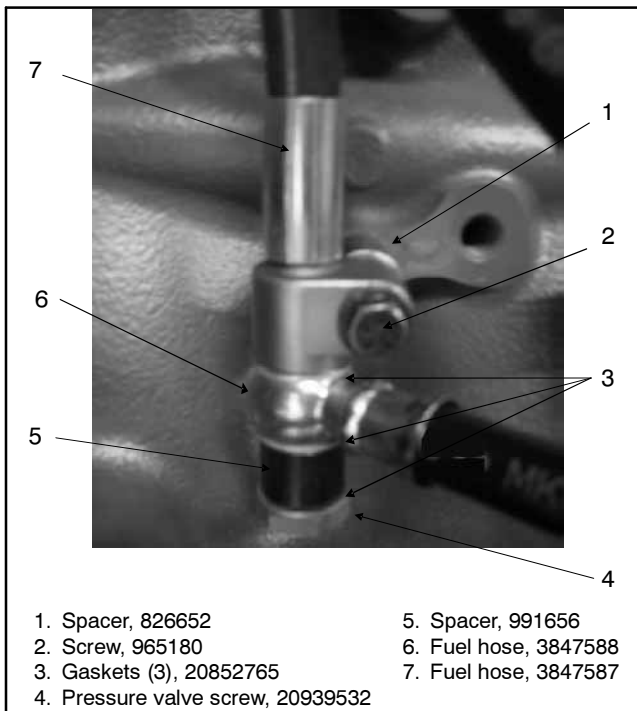
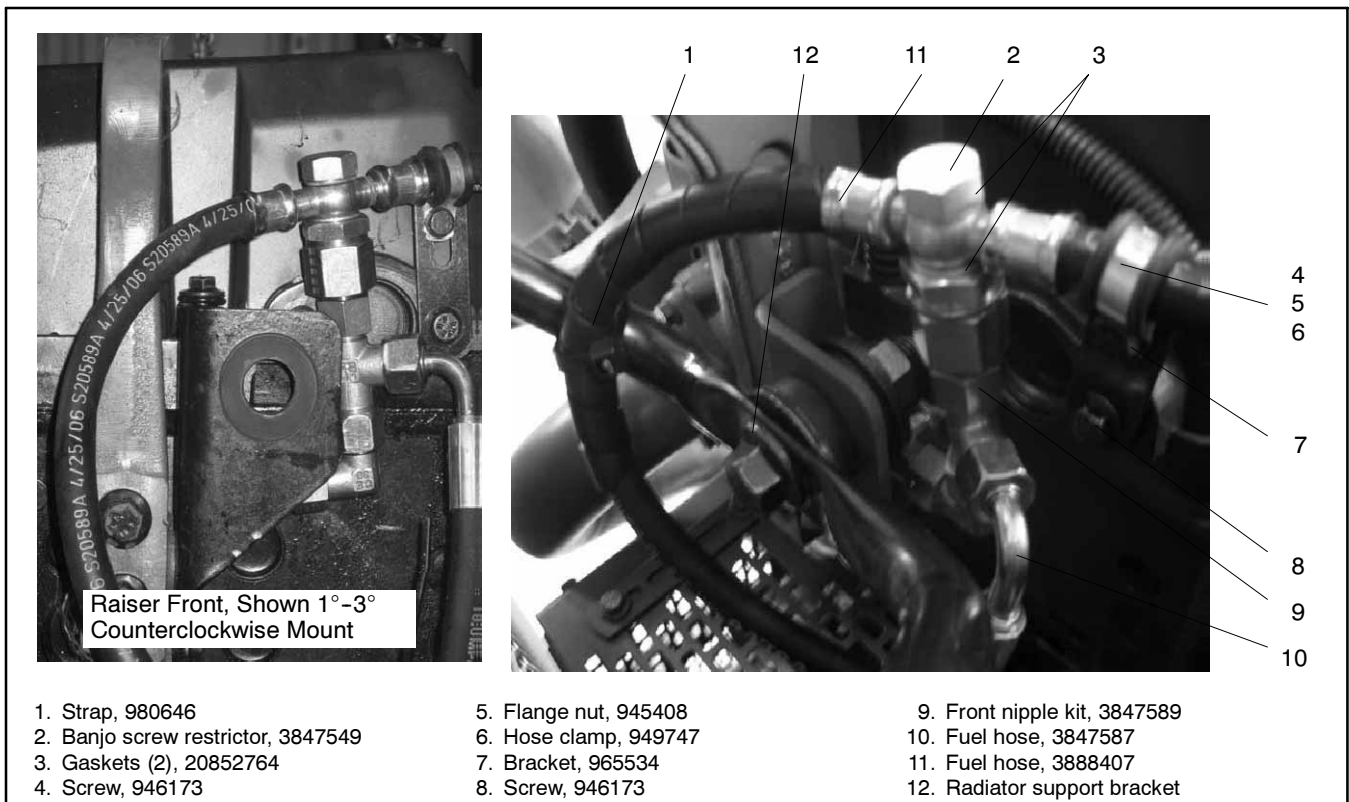

Figure 6 Pressure Valve Assembly Components
Figure 8 Front Riser Components
1.5.14 Assemble the pressure valve components that include the fuel hose 3847587 (item 7), fuel hose 3847588 (item 6), pressure valve screw 20939532 (item 4), three gaskets 20852765 (item 3), and spacer 991656 (item 5) using the sequence shown in Figure 6. Do not final tighten the banjo screw at this time.
1.5.15 Attach the pressure valve assembly to the engine block using the M8 x 60 screw 965180 (item 2) and spacer 826652 (item 1) as shown in Figure 6. Position pressure valve as shown in Figure 6. Final tighten the banjo screw.
1.5.20 Remove the bottom fitting (front nipple kit 3847589) on the front riser, install the bottom fitting to the front of the cylinder head, and attach and position the remaining front riser assembly (banjo screw restrictor 3847549) to the fitting as shown in Figure 8. Be sure to position the front riser 1-3 degrees counterclockwise in order to provide clearance between components and provide sufficient clearance to tighten the assembly.
- 1.5.21 Attach fuel hose 3847587 (Figure 6, item 7) from the pressure valve assembly to the front riser. See Figure 8, item 10.
- 1.5.23 Remove screw on valve cover near front riser and install extension bracket 965534 (item 7) and M5 x 20 screw 946173 (item 8) as shown in Figure 8. Original screw will not be reused.
- 1.5.24 Install fuel hose 3888407 (item 11) to the front riser using banjo screw restrictor 3847549 (item 2) and two gaskets 20852764 (item 3) as shown in Figure 8. Do not final tighten the banjo screw restrictor at this time.
- 1.5.28 Install hose clamp 949747 (item 6) to fuel hose and attach to bracket using M8 x 20 screw 946173 (item 4) and flange nut 945408 (item 5) as shown in Figure 8.
- 1.5.33 Install strap 980646 (item 1) to fuel hose and engine bracket as shown in Figure 8. Trim excess from strap.